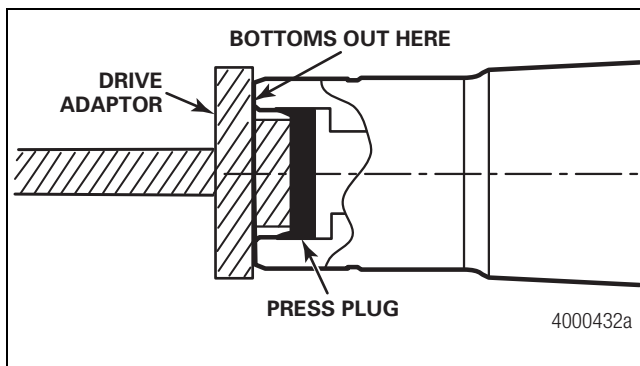

Figure 2.25
19. Use a four-pound brass or synthetic mallet to drive the press plug into the spindle bore, until the drive adaptor bottoms out squarely on the end of the spindle. The drive adaptor sets the press plug installation depth. There will be a definite change in the sound and feel of the hammering when the drive adaptor bottoms out. The tire inflation system can be pressurized 30 minutes after installation of the press plug. Figure 2.25.